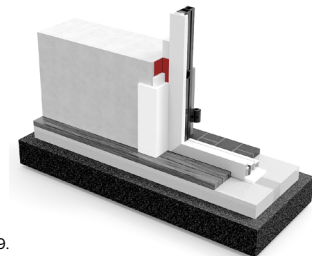

Fig. 9.
2. Glue vapour barrier tape along the inner contour of the frame on 3 sides, excluding the threshold (Fig. 9) (stop side — for reverse opening, hinge side — for right/left hand opening).